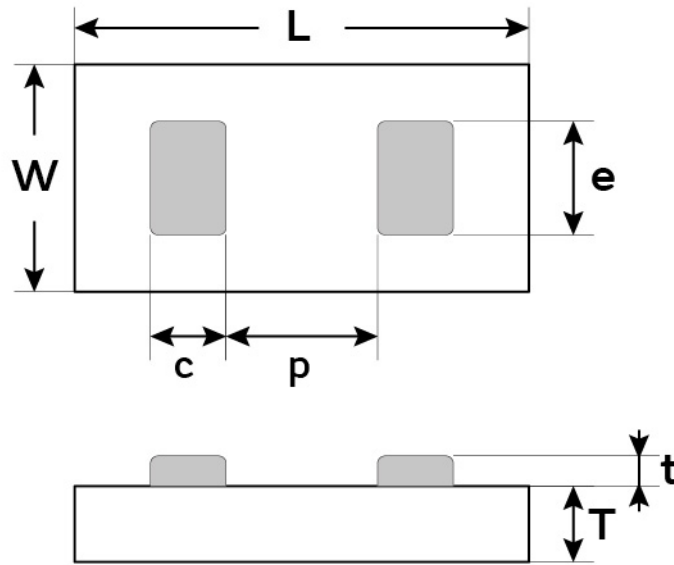

Figure 7 - Package outline drawing
- (1) Al = Min 3µm Aluminium
- (2) Refer to Figure 7